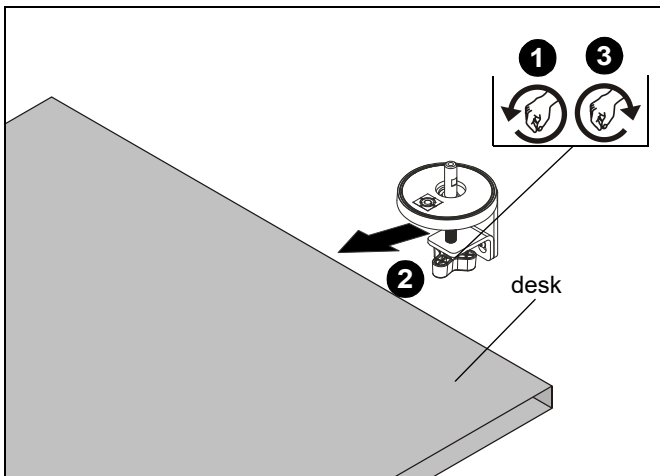
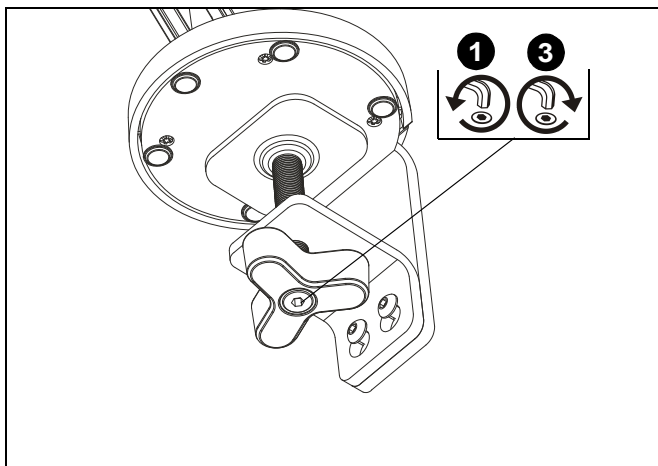

Figure 1
Figure 2
1. Loosen clamp screw on base assembly (B) until enough space is created between clamp and base to allow for desk mounting. (See Figure 1) or (See Figure 2)
NOTE: Clamp can be turned either by turning the knob (See Figure 1) or turning the bolt with a hex key (See Figure 2) depending on installer preference.
2. Place base assembly (B) on top of desk at desired mounting location. (See Figure 1)
3. Tighten clamp using clamp screw until mount is securely fastened to desk. (See Figure 1) or (See Figure 2)